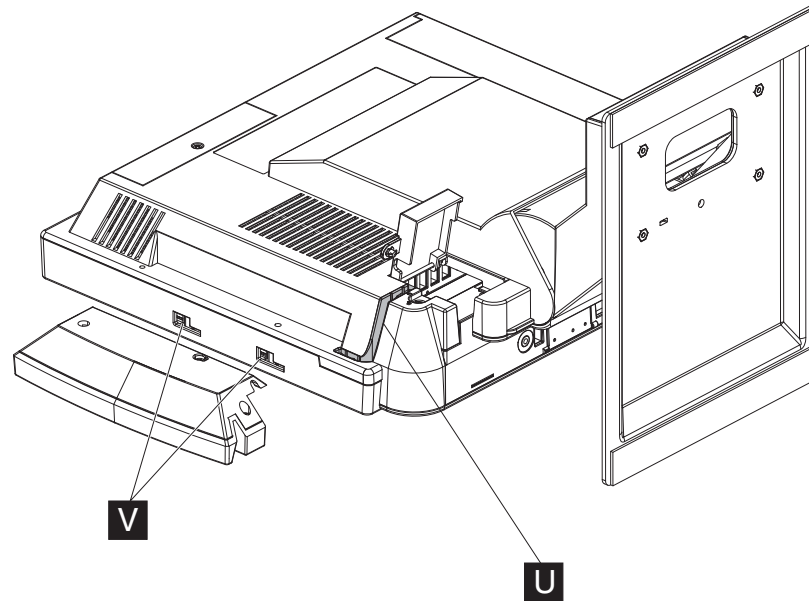

Figure 8. Installing the MSR
2. Use a small, flat-blade screwdriver to pry and then lift out to remove the MSR plugs (**V** in Figure 8).
6. Plug the MSR cable to its indicated connector. See Figure 8.
7. Starting from the MSR, press the MSR cable into the U slot (**U** in Figure 8) in the rear cover. The excess MSR cable should be placed in the MSR/USB cable cover area.